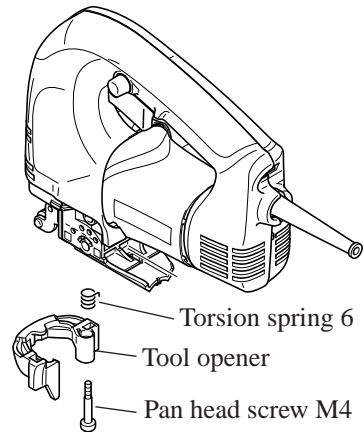
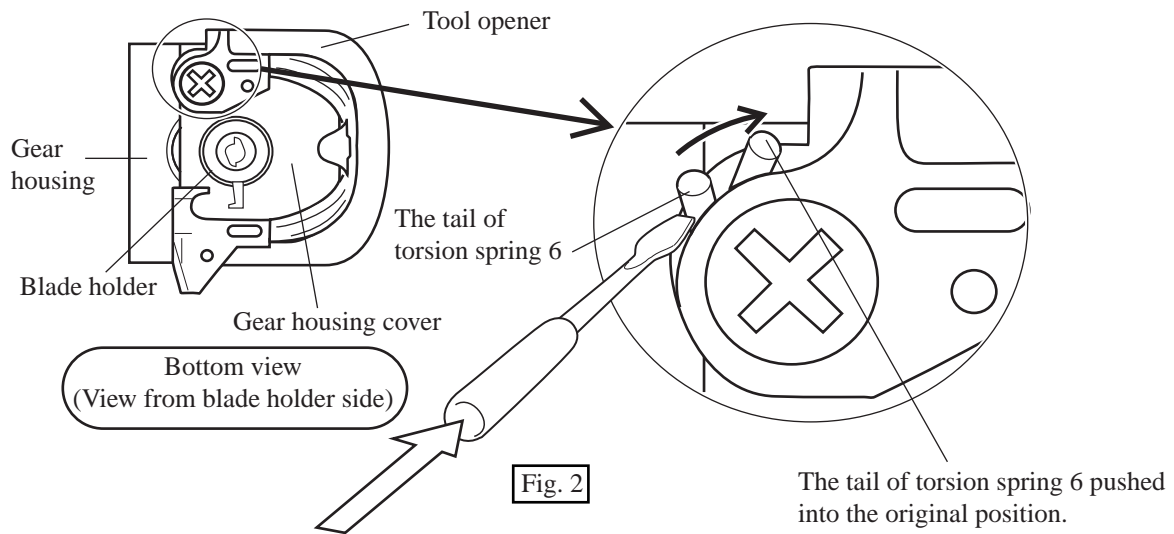

Fig. 1A
Fig. 2
2. Unscrew pan head screw M4. Then tool opener and torsion spring 6 can be disassembled. See Fig. 1A.
1. Put torsion spring 6 into tool opener . And fasten tool opener with pan head screw M4. See Fig. 1A above.
2. Bring the tail of torsion spring 6 which is extruding from tool opener, to the original position by turning it clockwise. See Fig. 2.
1. Assemble tool opener to gear housing cover with referring to Fig. 1A and Fig. 2 at page 3.